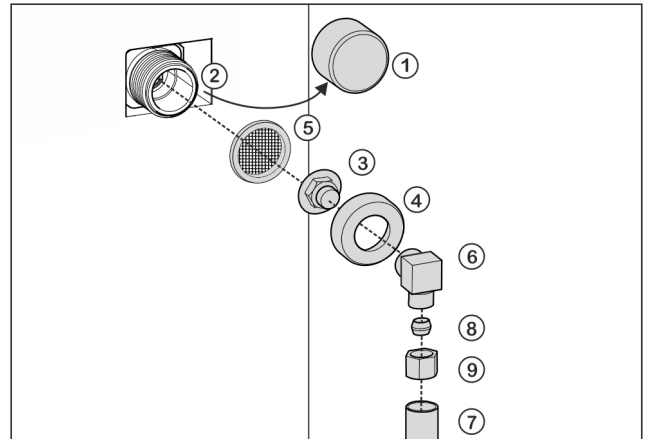

Fig. 21
- ▶ Remove the cap Fig. 21 (1) from the solenoid valve Fig. 21 (2).
- ▶ Insert the coupler Fig. 21 (3) into the union nut Fig. 21 (4).
Improper installation of the water filter Fig. 21 (5)!
- ▶ Insert the water filter Fig. 21 (5) with the recess pointing down towards the coupler Fig. 21 (3).
- ▶ Attach the union nut Fig. 21 (4) to the solenoid valve Fig. 21 (2) and tighten.
- ▶ Screw on the angle piece Fig. 21 (6).
- ▶ Connect the water hose Fig. 21 (7) (e.g. copper) to the angle piece Fig. 21 (6) using the clamp ring Fig. 21 (8) and nut Fig. 21 (9).
- ▶ Attach the water hose Fig. 21 (7) to the housing if possible, using the clip bracket.
- ▶ Put the angle piece Fig. 21 (6) to the side.
- ▶ Connect the water hose *Fig. 21 (7)* (e.g. copper) to the connecting piece *Fig. 21 (3)* using the clamp ring *Fig. 21 (8)* and nut *Fig. 21 (9)*.
- ▶ Attach the water hose *Fig. 21 (7)* to the housing if possible, using the clip bracket.